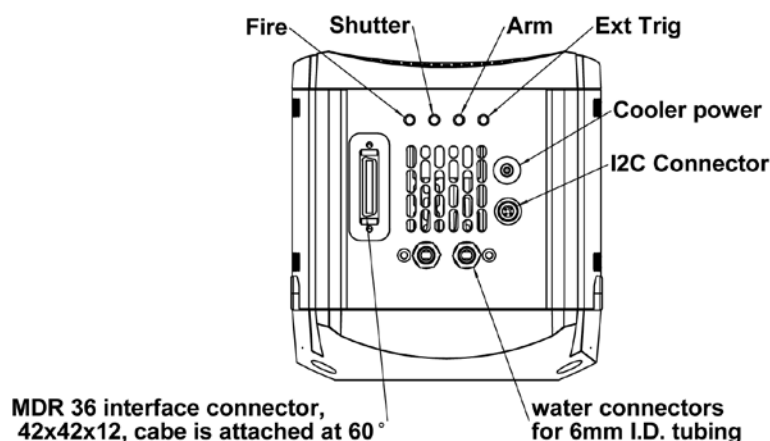

Figure 8: iXon3 connectors
There are six connections points on the iXon3 as shown in **figure 8** above. There are four industry-standard **SMB** (Sub Miniature B) connectors, details as follows:
The connection for the 26 pin interface between the camera and the PCI controller card is made via an MDR 36 connector shown in **figure 8** above.
4. There is only one socket on the camera that the **PSB** can be connected to and this is labeled **Cooler Power** (please see **figure 8** on **page 20**).